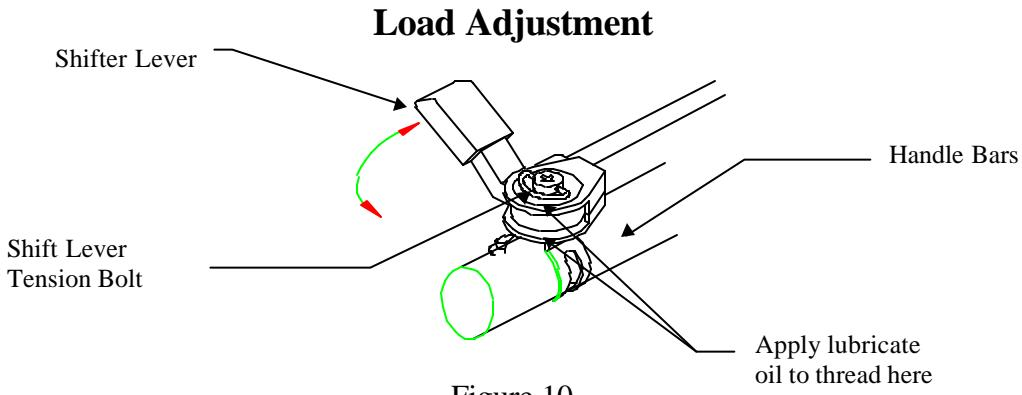

Figure 10
2. Set the shift lever at the full load position (counter clockwise, Figure 10). Gently move the crank arm back and forth being careful not to rotate the flywheel. The movement of the end of the crank arm (at the pedal) should not be more than 1/8 of an inch. If the movement of the arm is greater than 1/8 of an inch the chain may be out of adjustment.
1. Using one hand, clamp two fingers on top and a thumb on the bottom of the shifter assembly unit. Loosen the shift lever tension bolt about **1/8** of an inch (Being careful not to allow the small plastic shifting spring inside the Shifting assembly unit to fall out). Lift the shift lever tension bolt, the thread should be visible (Figure 10).
- A friction belt supplies the desired load. This load may be adjusted by simply turning the Shifter Lever located on the handle bars (Figure 10).
2. Set the shift lever at the full load position, counter clockwise (Figure 10), gently move the crank arm back and forth being careful not to rotate the flywheel. The movement of the end of the crank arm (at the pedal) should not be more than **1/8 of an inch**. If the movement of the arm is greater than 1/8 of an inch the chain may be out of adjustment.
2. To tighten the lever, rotate the shift lever tension bolt (see figure 10) clockwise until the desired tension is achieved.